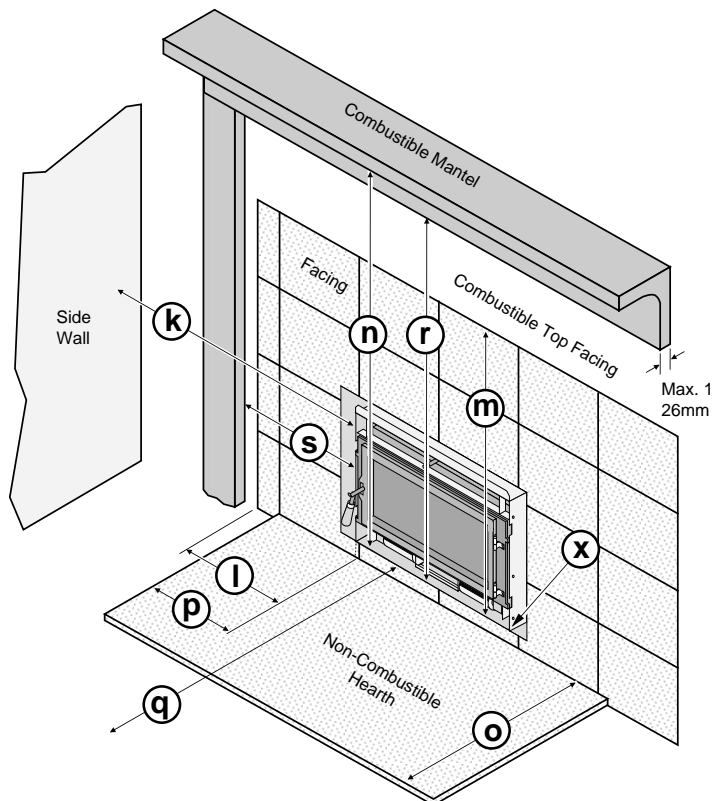

Figure 3
- The insert must be placed so that no combustibles are within, or can swing within (e.g. drapes, doors), 36" (915mm) of the front of the insert ( Figure 3 "q").
- The minimum clearances, facing, and hearth requirements in Figure 3 must be met.